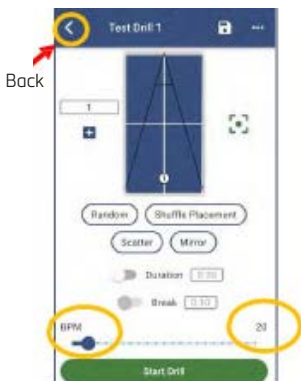

Figure 4-2
4. Move the BPM slider to set the balls per minute to 20 (Figure 4-2).
7. Press the Back button (Figure 4-2) to return to the Main Screen AND press Settings to open the Setting screen.